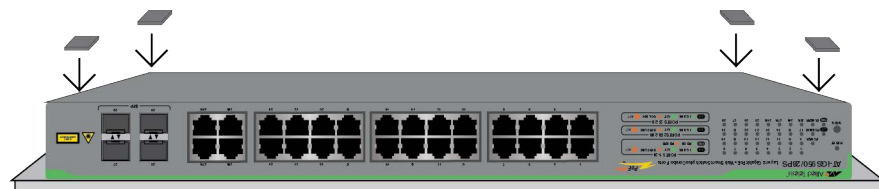

Figure 20. Affixing the Bumper Feet
5. Affix the bumper feet to the four corners on the bottom panel of the switch. Refer to Figure 20.